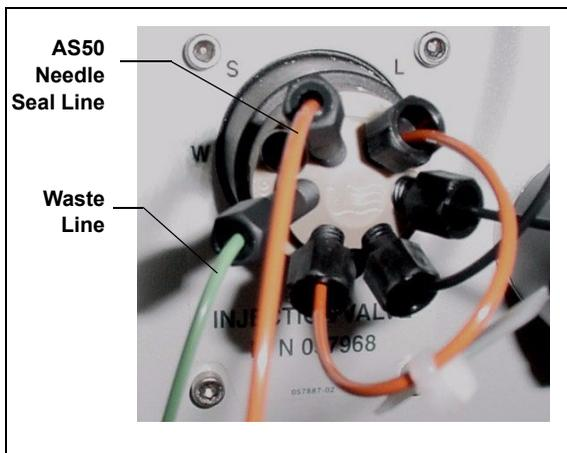
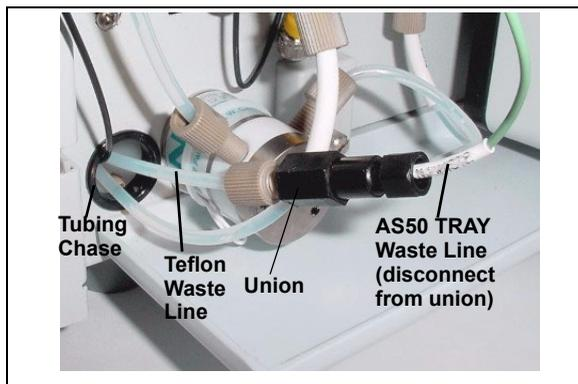

Figure B-40. ICS-1500 Injection Valve
Figure B-41. Injection Valve Waste Line Union
4. Connect the needle seal line from the AS50 to port **S (5)** on the injection valve (see Figure B-40).
The green waste line that is connected to port **W (6)** on the injection valve (see Figure B-40) is connected with a union to a Teflon waste line (see Figure B-41) and routed through the tubing chase to the ICS-1500 rear panel.